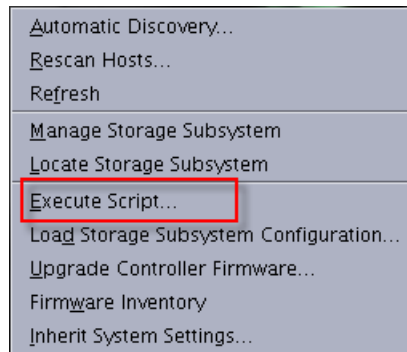

Figure 5-70 Tools menu from the IBM Storage Manager Enterprise window
- From the IBM Storage Manager enterprise management window select Tools → Execute Script as shown in Figure 5-70.